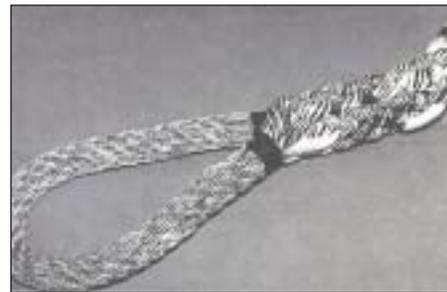

fig. 13
22. Lay the ends of the strands along the rope keeping them evenly spaced around the circumference (fig. 13).